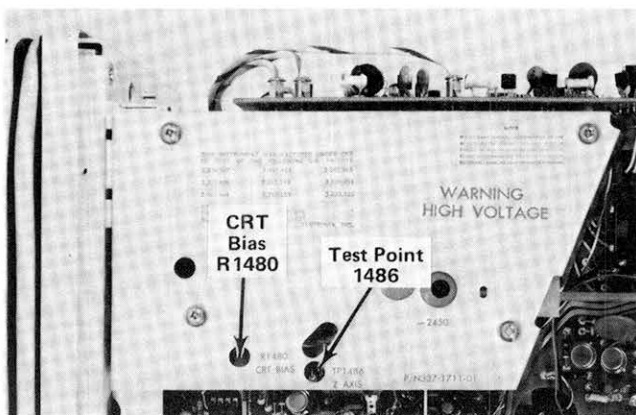

Fig. 5-4. Location of CRT Grid Bias adjustment and test point 1486.
a. Connect the DC Voltmeter between TP1486 which is accessible through a hole in the high voltage cover, and ground. (Negative meter lead to ground.) See Fig. 5-4.
e. ADJUST—CRT Grid Bias adjustment, R1480, for the dimmest, well-defined dot visible on the CRT (see Fig. 5-4).